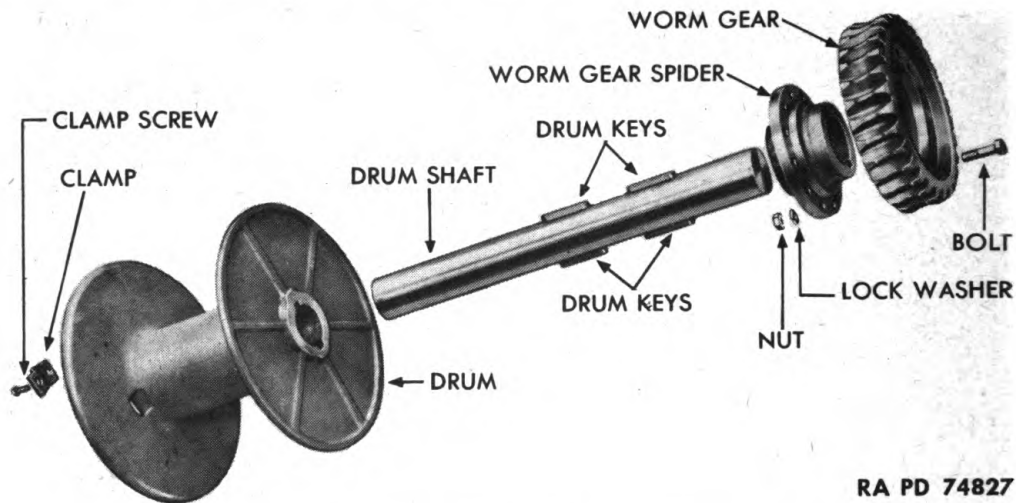

Figure 27 — Drum and Shaft — Disassembled
46. DRUM AND SHAFT (fig. 27).
c. **Assembly** (fig. 27). Press worm gear spider on drum shaft, and install worm gear on spider, securing with 12 bolts, nuts, and lock washers. Install two drum keys on shaft, and install shaft in drum. Install clamp and clamp screw on drum.